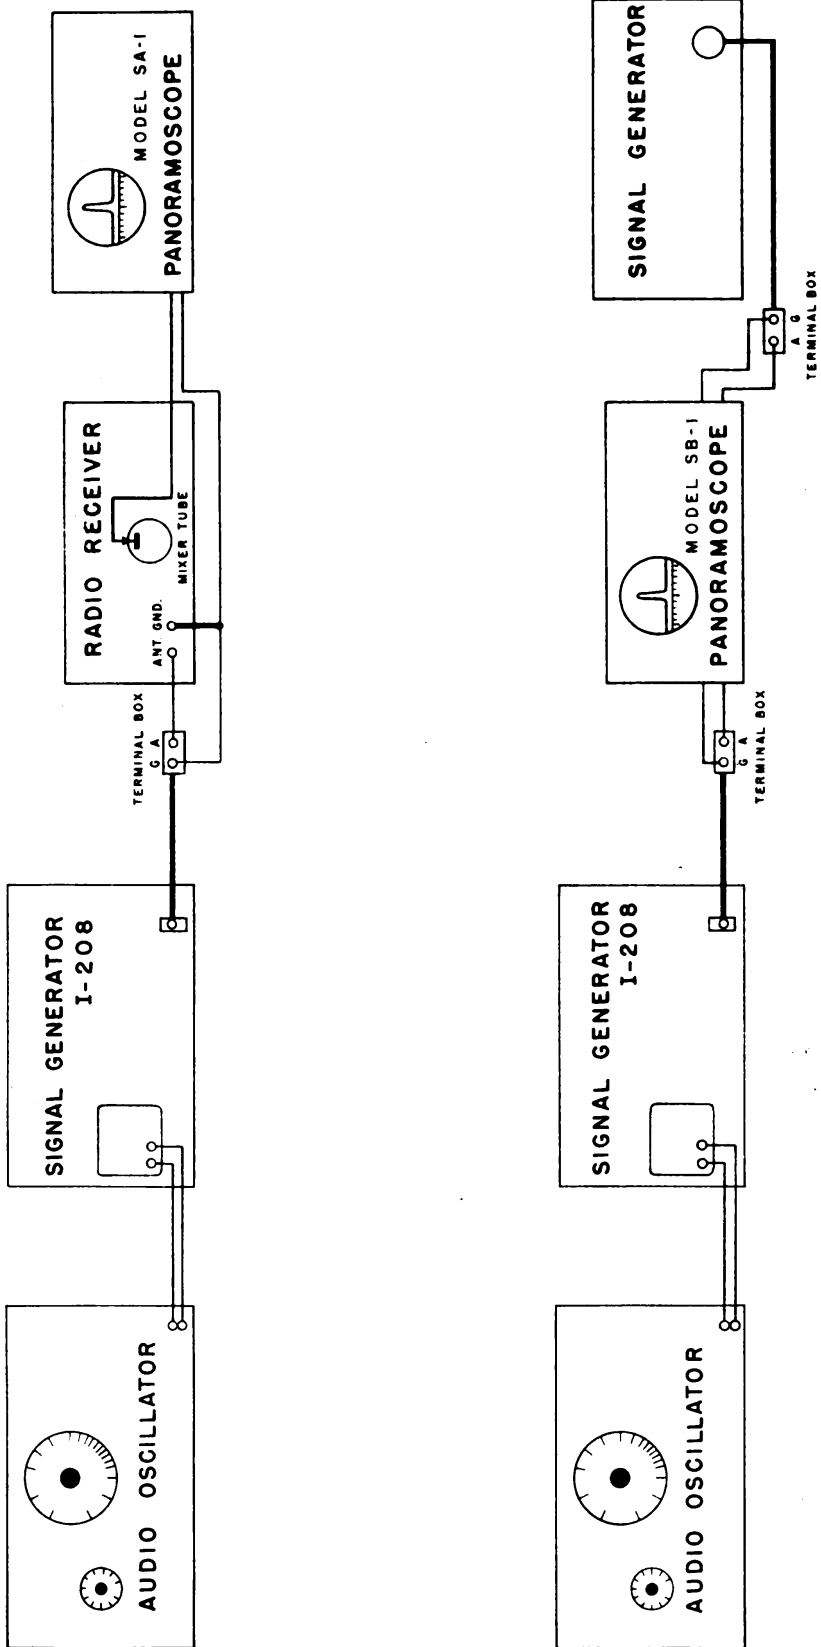
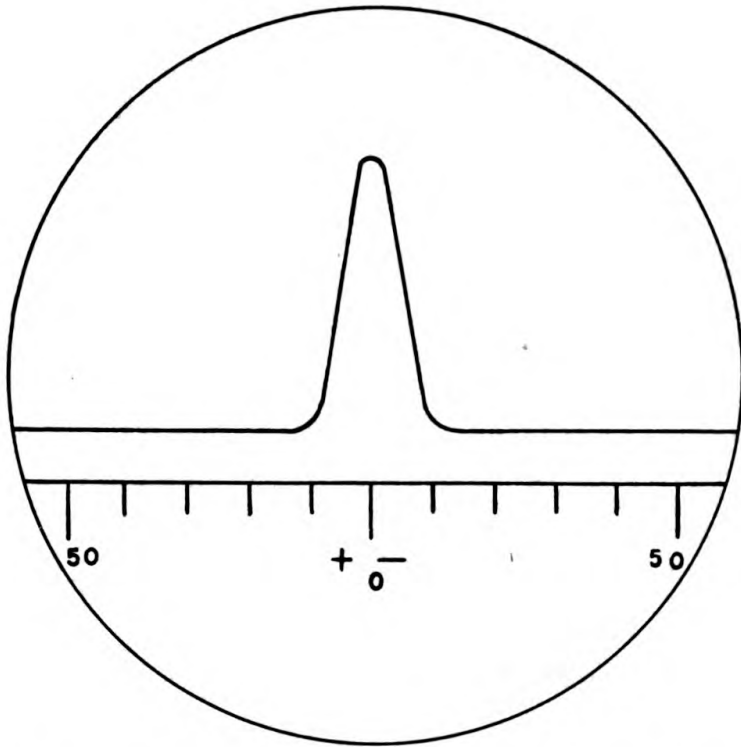
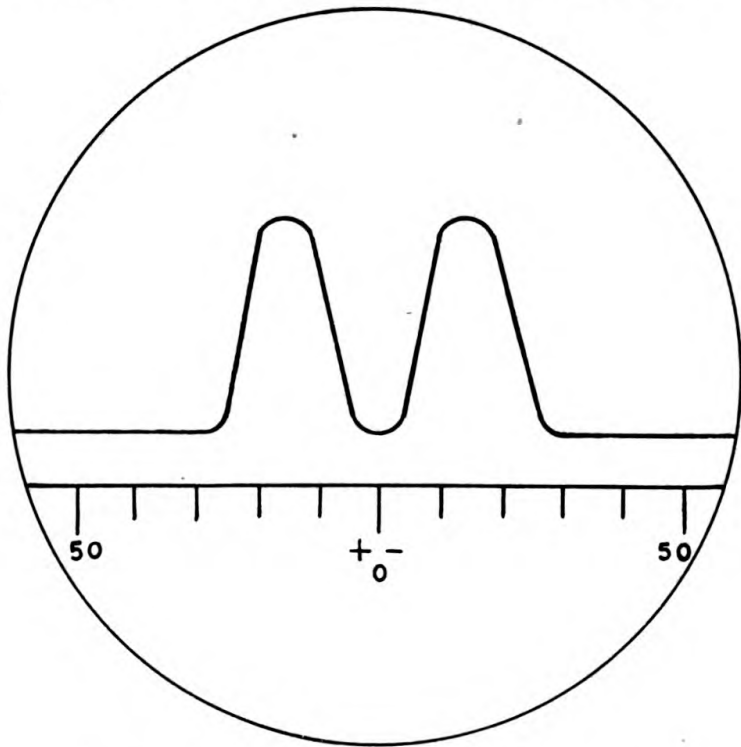

Figure 12—Block diagram showing methods of connecting Signal Generator I-208 to a radio spectroscope
Figure 13—Panoramic pattern, unmodulated signal
Figure 14—Panoramic pattern, first null point
(1) Refer to figure 12 for the equipment necessary. Two setups are shown.
- (2) Connect the signal generator as shown in figure 12.
- (3) Set the MICROVOLTS control to 10.
- (4) Turn the multiplier switch to 10M.
- (5) Adjust the R.F. OUTPUT control so that the meter indicates approximately 1.
- (6) Turn the band switch to R.F. 19–45 MC.
- (7) Turn the signal generator to 19 MC.
- (8) See that the MODULATION FREQ. switch is at EXT. MOD. (OFF).
- (9) Turn the output gain control of the external audio oscillator to zero. Since the accuracy of this adjustment depends upon the frequency accuracy of the audio source, the external audio oscillator should be highly accurate. If such an oscillator is not available, the 5000-cycle modulation frequency of the internal audio oscillator may be used. In this case, however, the error in deviation accuracy introduced will then be a maximum of 5 per cent.
- (10) Throw the METER switch to AUDIO.
- (11) Turn the K.C. DEVIATION control to 43.
- (12) Tune the radio receiver to the frequency of the signal generator. At this point a pattern as shown in figure 13 should appear on the panoramic screen.
- (13) Set the frequency of the external audio oscillator to 5000 cycles per second.
- (14) Turn the gain control of the external audio oscillator slowly to the right until the center frequency peak reaches the horizontal axis. This is a center frequency null point (figure 14). Continue to turn the audio gain control until the third consecutive null point has been reached and leave the control in this position.
- (15) Turn the K.C. DEVIATION control to 50.
- (16) Adjust variable resistor R_{29} so that the meter indicator is coincident with the red line.
- (17) Turn the tuning dial counterclockwise (left) to 45 MC.
- (18) Audio meter reading at 50 KC should be 1.0. If it is not, adjust DEVIATION CORRECTOR until the audio meter reads 1.0.